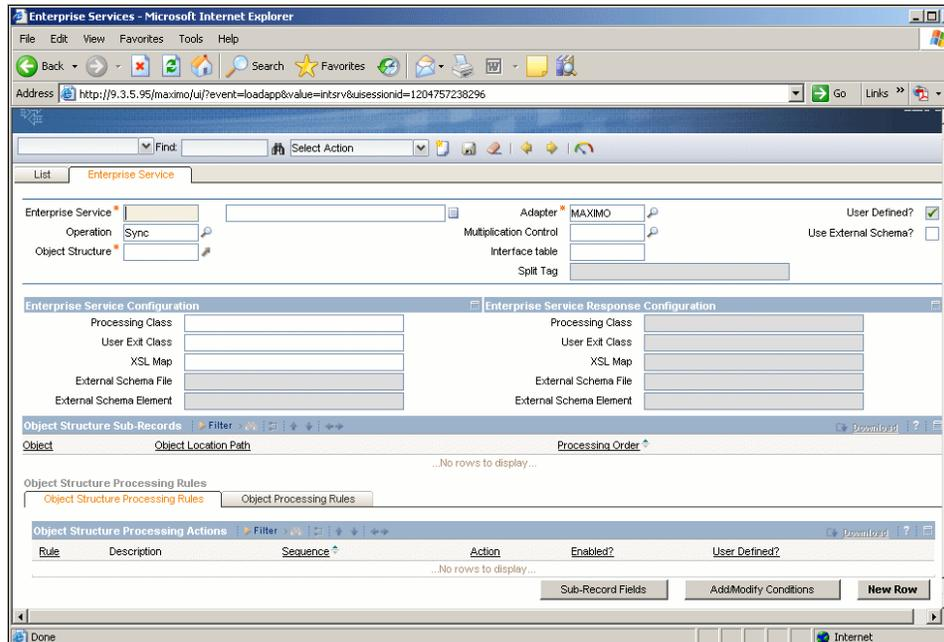

Figure 2-41 Creating a new Enterprise Services record
1. Click **New**. Figure 2-41 on page 96 appears.